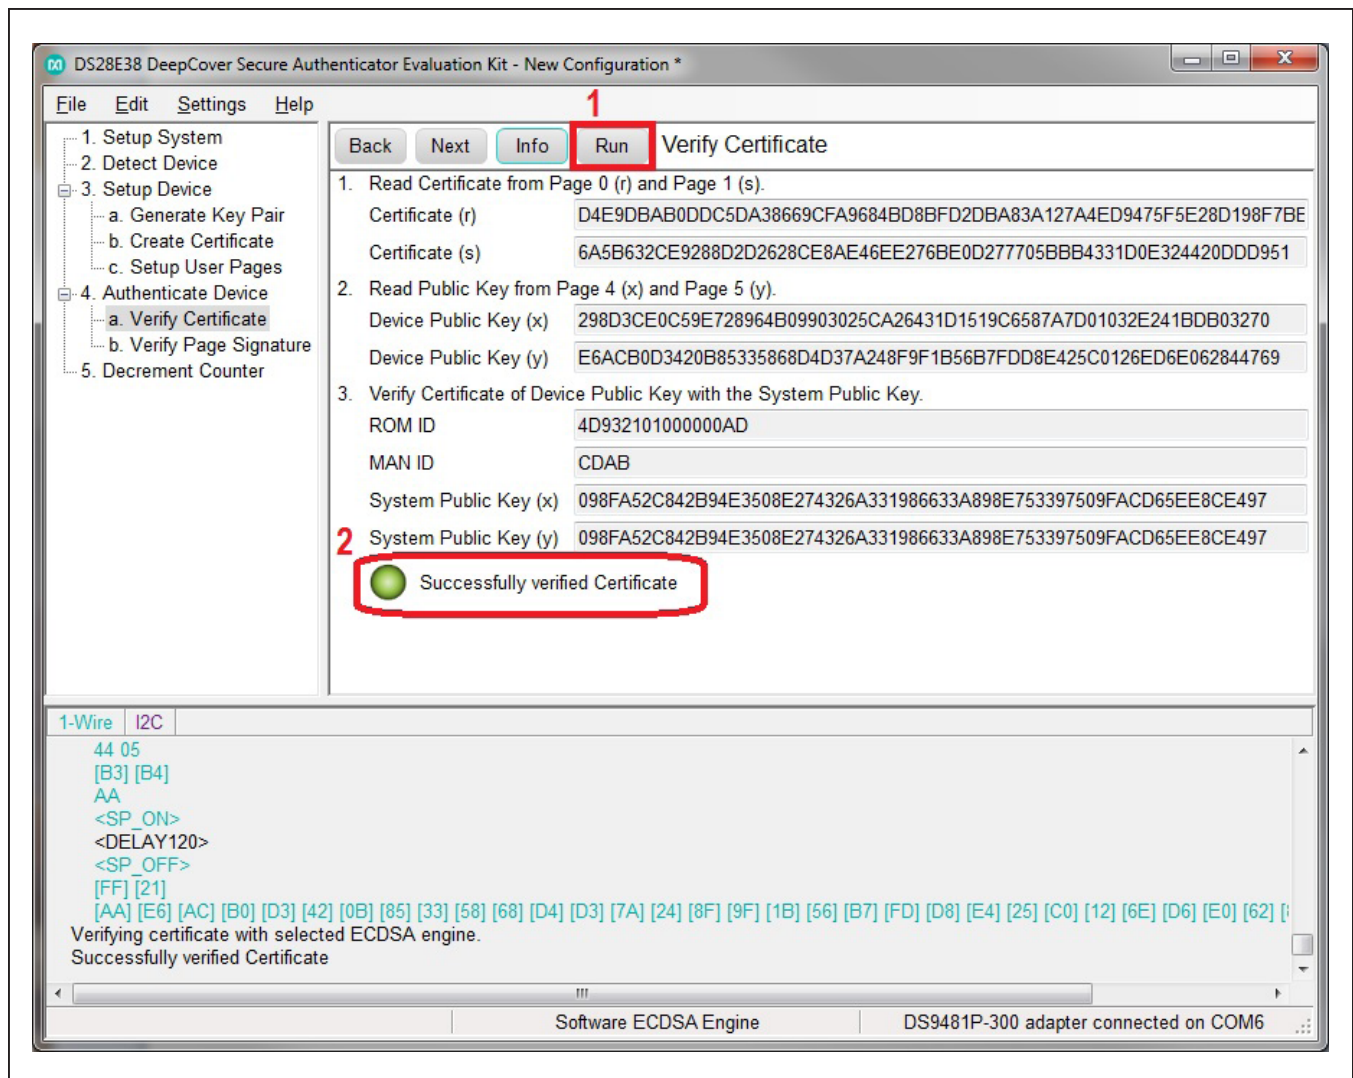

Figure 20. Verify Certificate
- a. The host needs to check that the DS28E38 is part of the system by verifying its certificate. Click on **Run** button and confirm the status says, **Successfully verified Certificate** (Figure 20). During the run, the